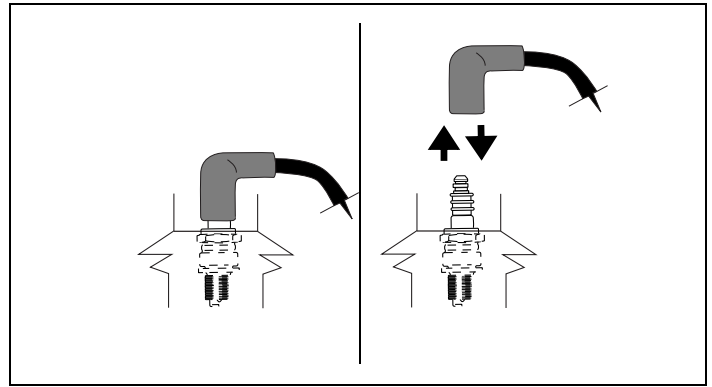

Figure 35. Disconnecting/Connecting Spark Plug
1. Disconnect spark plug wire and keep it away from spark plug. See "G. Avoid Accidental Starts" instructions on page 2. See Figure 35.